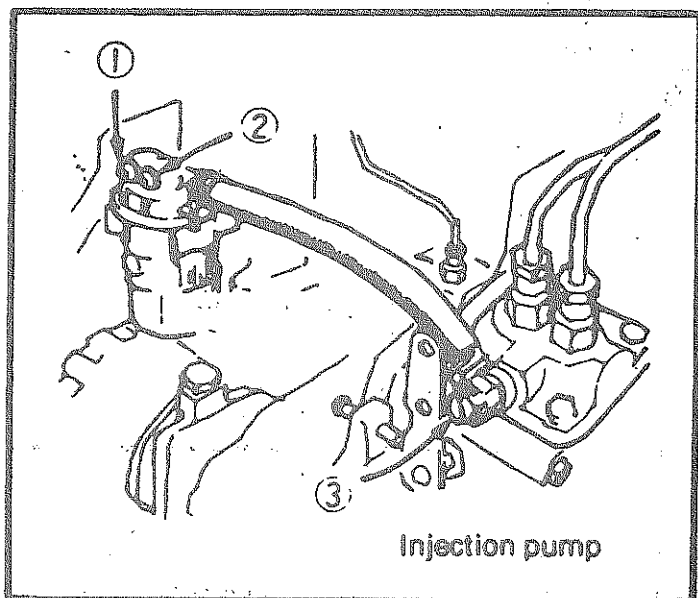

Fig. 10
To purge the air from the fuel system, first loosen the fuel filter ventilation screw (1) and re-tighten the screw after bubbling ceases. Thereafter purge the air by loosening the fuel filter and injection pump ventilation screws (2) and (3), in this order, and then re-tighten the screws (Fig. 10).